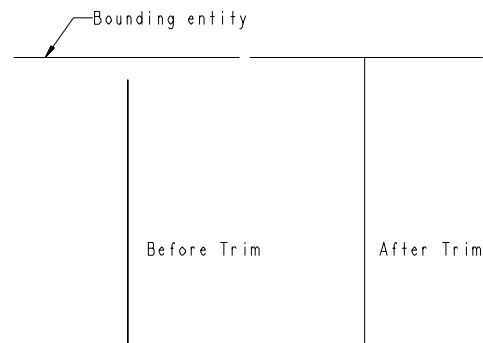

Figure 1-20 The *Bound* option
submenu. You will be prompted to select a bounding entity to trim to. This is the bounding limit up to which the line will be deleted or extended. Figure 1-20 shows the line extended up to a bounding entity.
- Select the line to be trimmed using the left mouse button. The line is extended up to the bounding entity. This is shown in Figure 1-20. You can change the bounding entity anytime by pressing the middle mouse button and selecting another entity as the bounding entity.